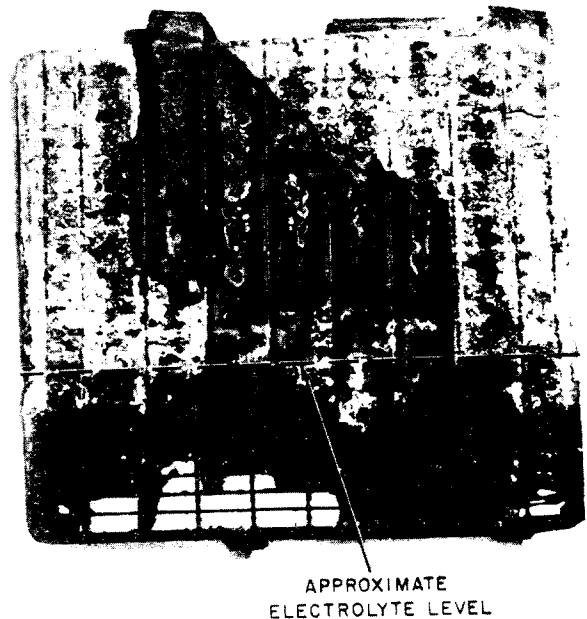

Fig. 5—Plate Damage Caused by Low Electrolyte Level
3.05 Low electrolyte level shortens battery life and causes poor performance. The active plate material above the electrolyte level becomes hardened and chemically inactive, while the plate material below the electrolyte level deteriorates more rapidly because of the higher concentration of acid. A place damaged by low electrolyte level is shown in Fig. 5. Overfilling causes loss of electrolyte and excessive corrosion of terminal posts and cell covers. Loss of electrolyte results in poor performance and early failure.